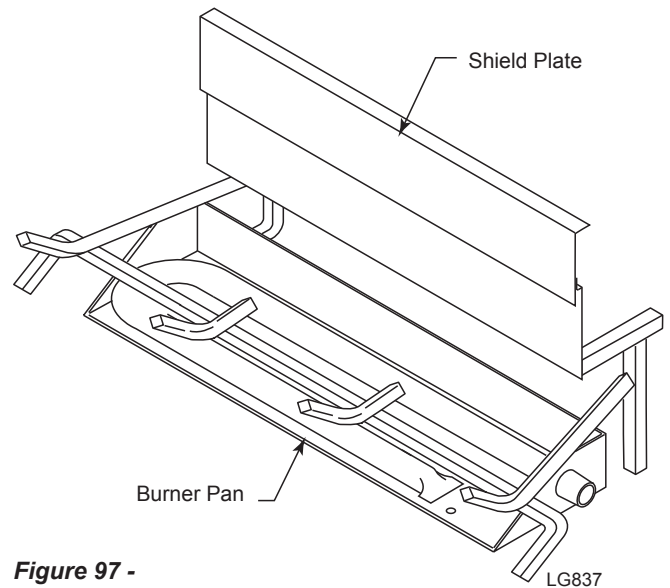

**Figure 97 -
1. Slide shield plate behind burner pan. *Figure 97*